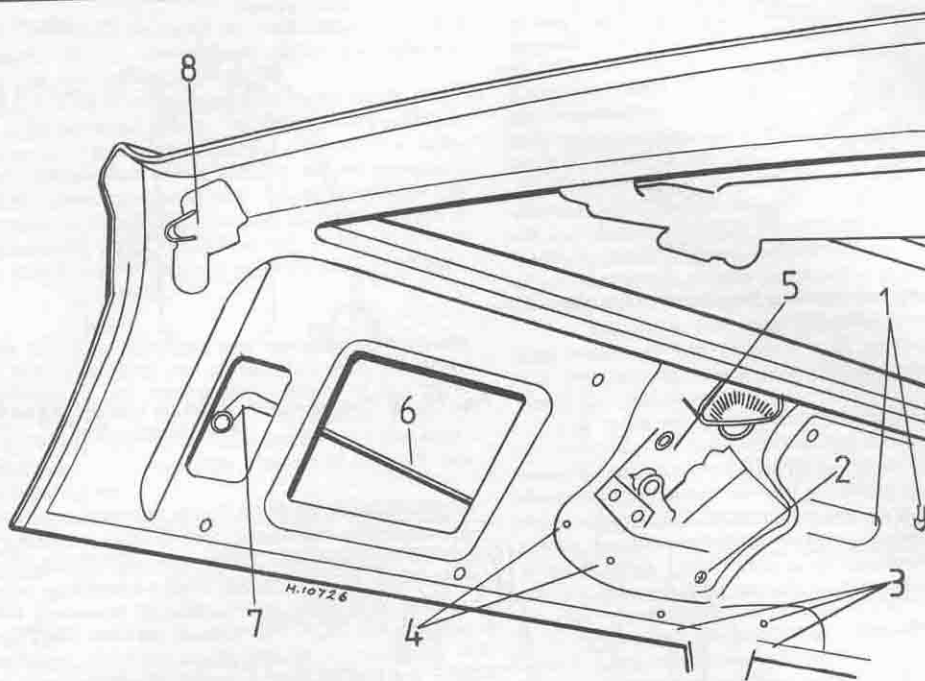

Fig. 10.20 Layout of the tailgate with the Ducellier wiper motor (Sec 53)
- 5 With the Ducellier type motor, undo the cable clips and unplug the electric leads to the wiper motor (Fig. 10.20).